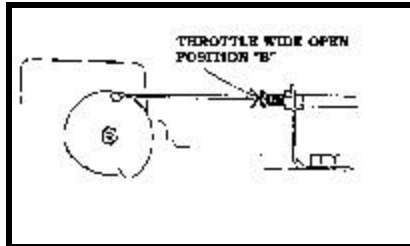

Figure 5
- B. Depress accelerator pedal and make a mark on the throttle cable when the throttle is in the wide open position. **Figure 5**